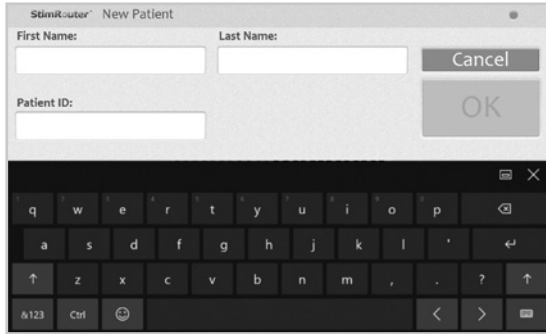

Figure 9-2: New patient window
6. When the New Patient window opens, enter the patient's first and last names and a patient ID. See Figure 9-2.